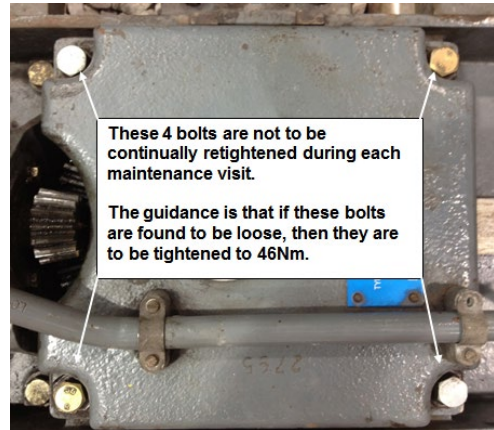

Figure 13 – Mounting plate bolts
- 13.5 Check tightness of the four bolts securing the bevel gear mounting plate, Figure 13.